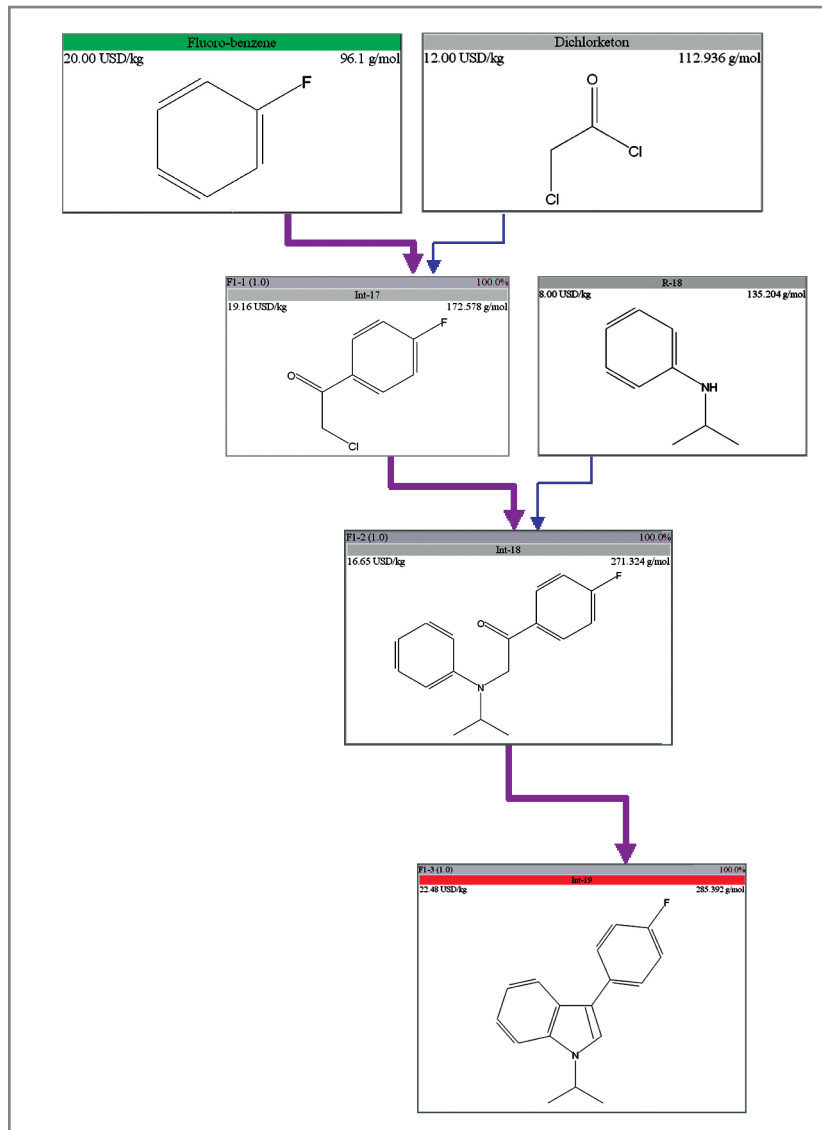

Figure 2: Route view of a process
At the earliest stage, a new product arrives through the research organization (or via contract from partner organizations). The first stage of development, **route selection**, is to design the basic set of chemical/biochemical transformations to make the product at a reasonable scale from the commonly available raw materials. Along with the key bio/chemical expertise, the process of route selection seeks input from process development and production engineers for the kinds of operations that are most easily managed in the available equipment. In addition, the procurement organization will provide estimated costs for raw materials. Even at this early stage, organizations will begin to consider where they intend to do long-term manufacture of the product, and they will start negotiating with suppliers for price on raw materials or key production steps. *Figure 2* is an example of a route view of the process.
- *Figure 2* - The basic set of transformations (A -> B -> C -> Product)